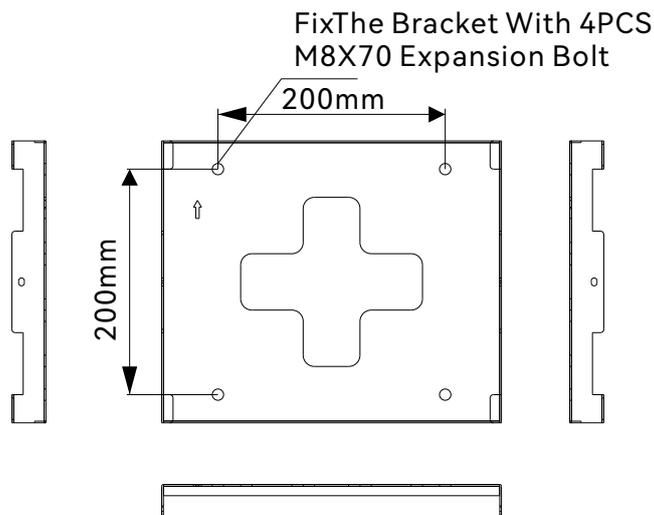

Figure 8
- The size of the bracket is shown in figure 8 (4 expansion screws, 2 wall screws).